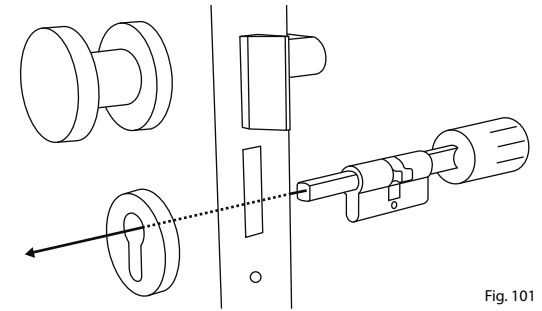

Fig. 101
- 4 From inside the door, push the cylinder into the mortise lock (Fig. 101).